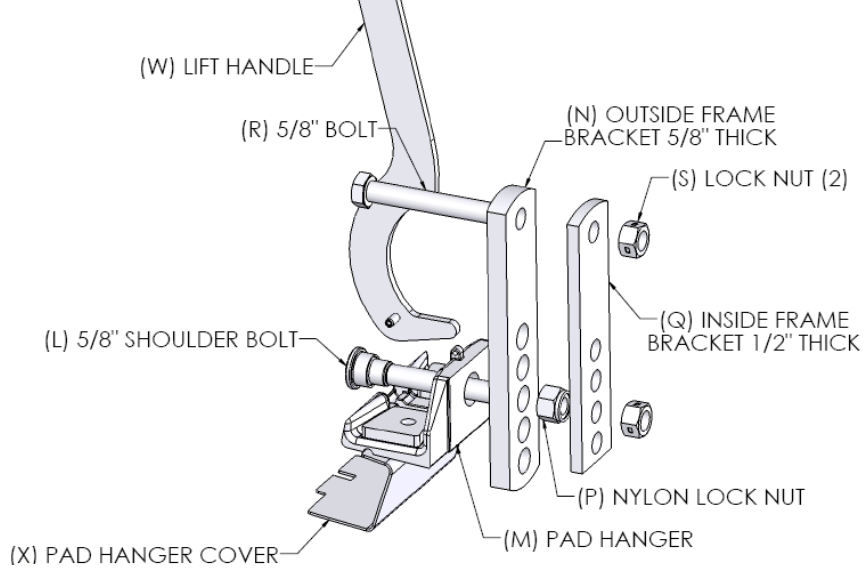

Fig. 2
FRAME BRACKET ASSEMBLY (600 lb and 800 lb kits only, shown in Fig. 2)
- Assemble 5/8" bolt (R) through the top holes of the outside frame bracket (N) and inside frame bracket (Q) (See Fig. 2).